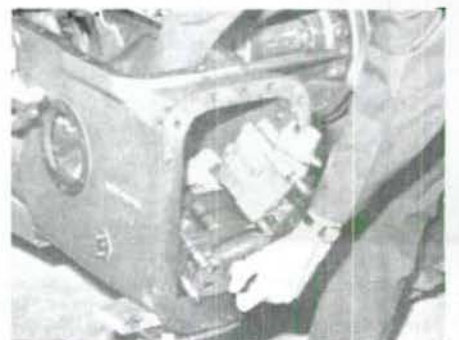

Fig. 229—Pump and drive assembly must be removed out front of differential housing on models equipped with an auxiliary pump.
**NOTE:** On some models with auxiliary hydraulic system, it is necessary to reposition pump and remove elbow from top of pump before pump assembly can be withdrawn (Fig. 229).